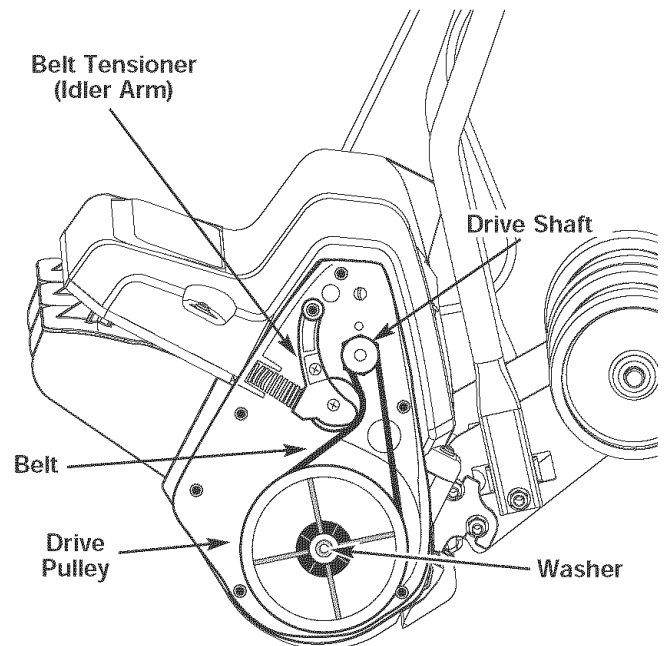

Fig. 10
3. Pull the belt tensioner (idler arm) away from the drive pulley. Remove the damaged or broken belt from the driven pulley and drive pulley inside of the housing. Discard appropriately (Fig. 10).
4. Loop the new belt around the drive pulley and driven pulley (Fig. 10). Pull the belt tensioner (idler arm) away from the drive pulley to install the belt around the drive pulley.